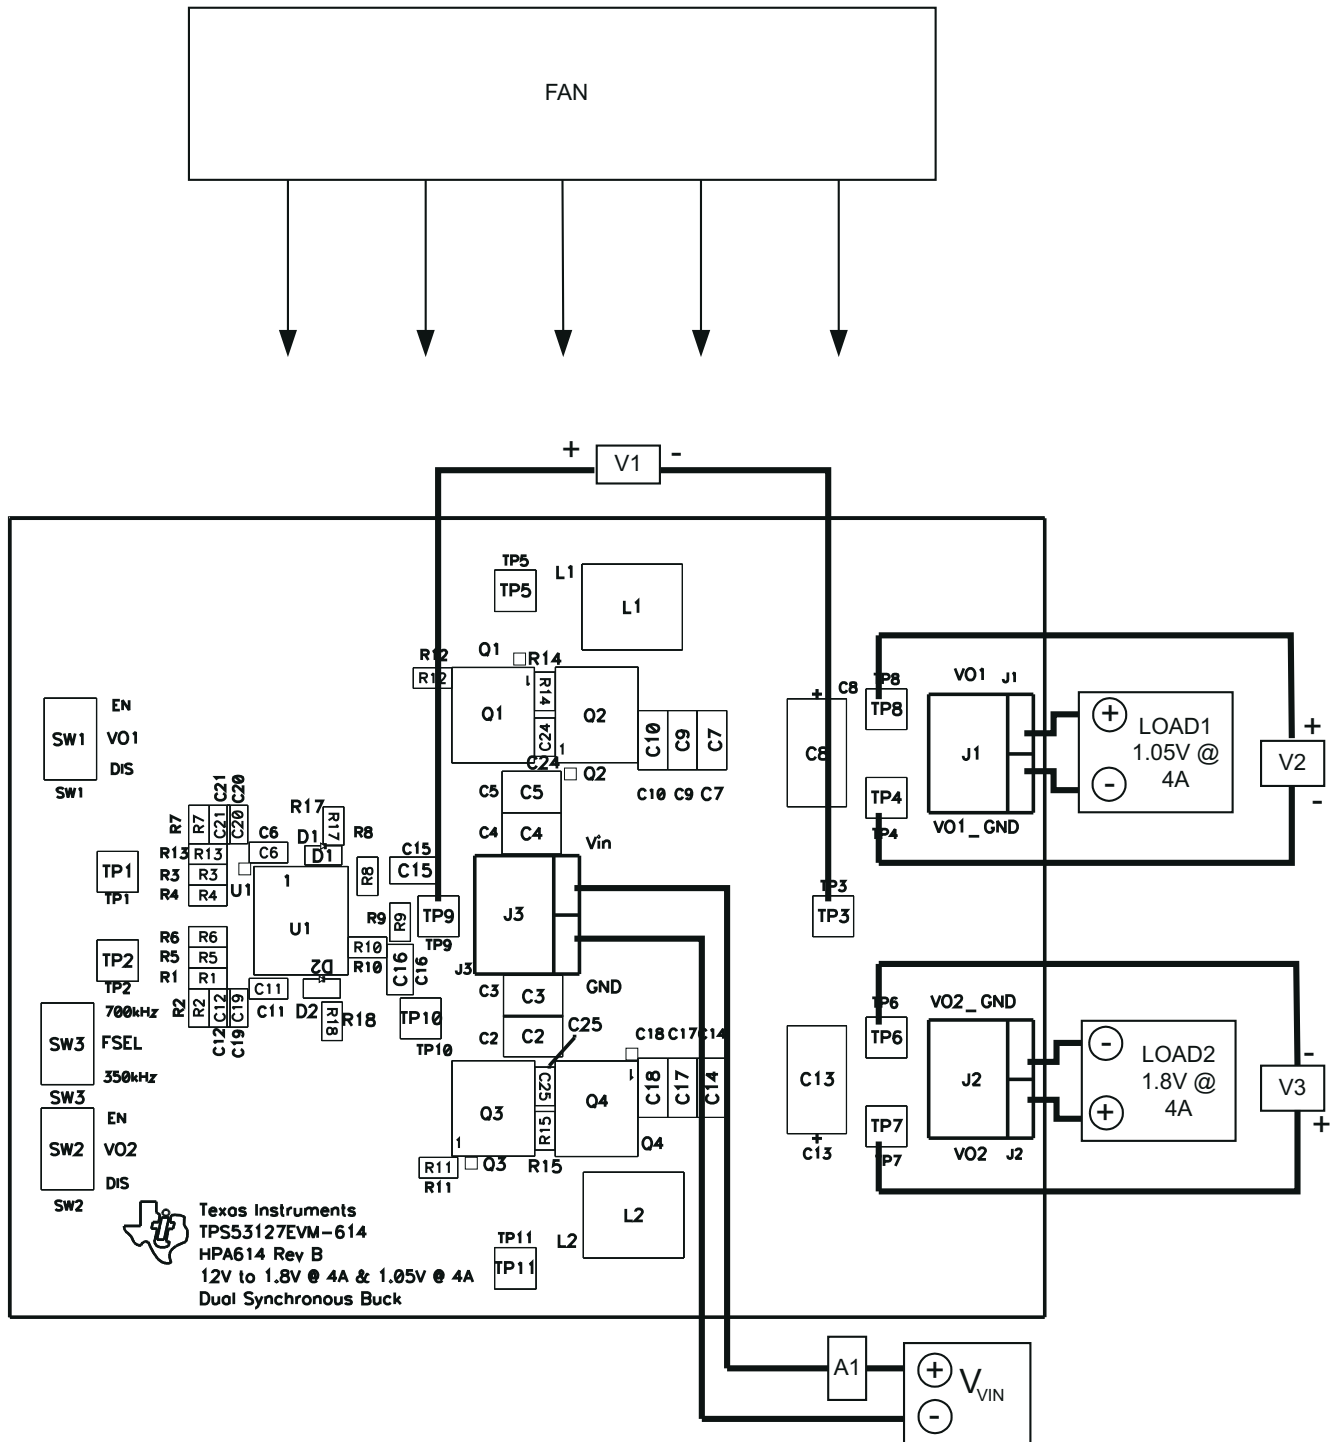

Figure 5-1. TPS53127EVM-614 Recommended Test Setup
Figure 5-1 shows the recommended basic test setup to evaluate the TPS53127EVM-614. Note that although the return for J3 and J1 and JP2 are the same system ground, the connections should remain separate as shown in Figure 5-1.
2. Prior to connecting the DC input source,  $V_{IN}$ , it is advisable to limit the source current from  $V_{IN}$  to 3.0 A maximum. Make sure  $V_{IN}$  is initially set to 0 V and connected as shown in Figure 5-1.
4. Place a fan as shown in Figure 5-1. Turn it on, making sure that air is flowing across the EVM.
5. Connect an oscilloscope probe to CN1 or CN2 shown in Figure 5-1.